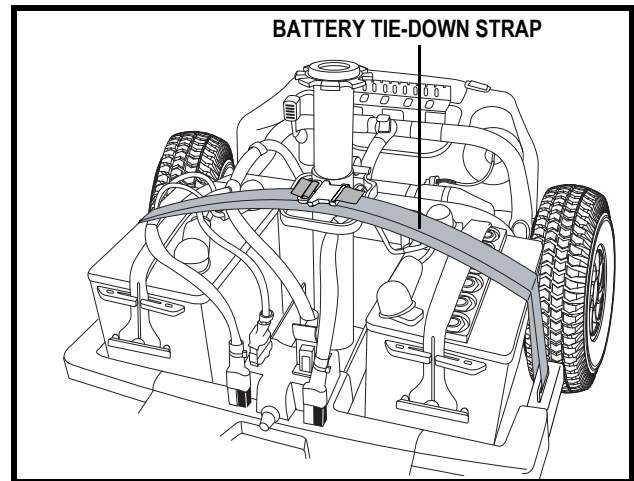

Figure 13C. Battery Tie-Down Strap
2. Disconnect the battery tie-down strap. See figure 13C.
11. Reconnect the battery tie-down strap, making sure the strap is positioned over the frame release lever to ensure proper securement. See figure 13C.